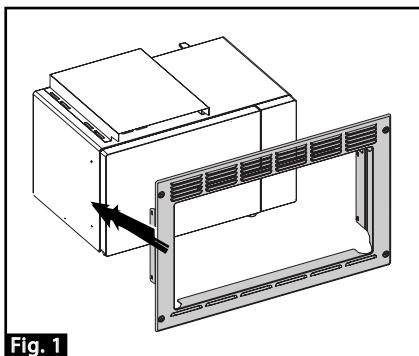

Fig. 1
2. Slide the trim kit onto the microwave oven (Fig. 1) so that the face of the oven and the trim kit are flush.